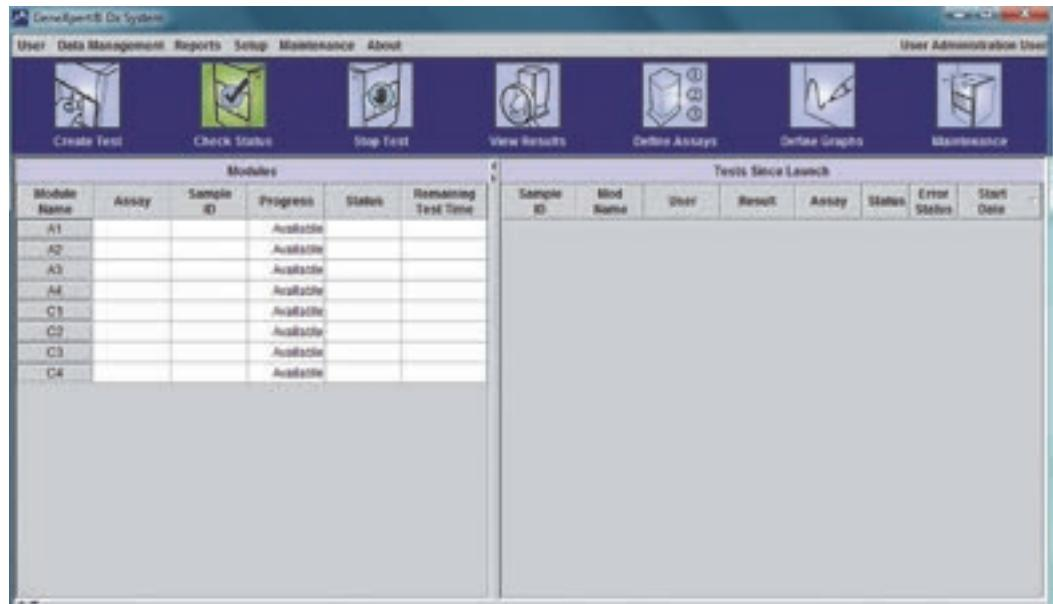

Figure 2-65. GeneXpert Dx System Window
2. In the Database management dialog box, click **NO** to proceed. The GeneXpert Dx System screen appears (see Figure 2-65).